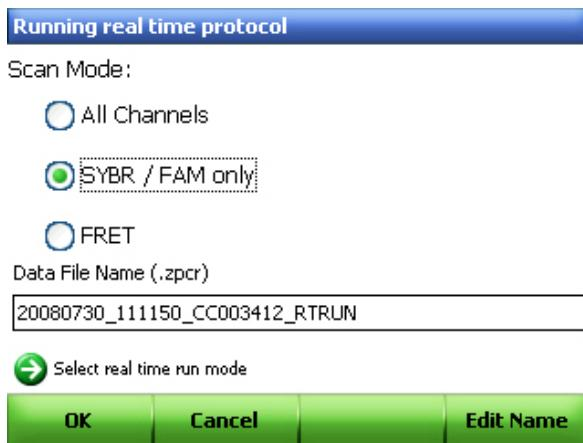

Figure 44. Scan mode and data file name.
9. Select a **Scan Mode** to instruct the instrument in which channels to collect fluorescence data during a run (Figure 44).